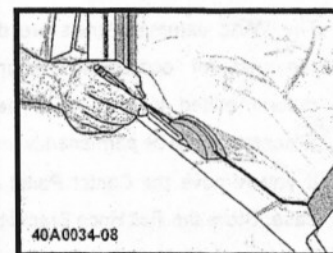

FIGURE 8
6. Mark the location of the Center Panel Center Bracket with a light pencil mark or a piece of tape and then remove the Center Panel. (FIGURE 8)